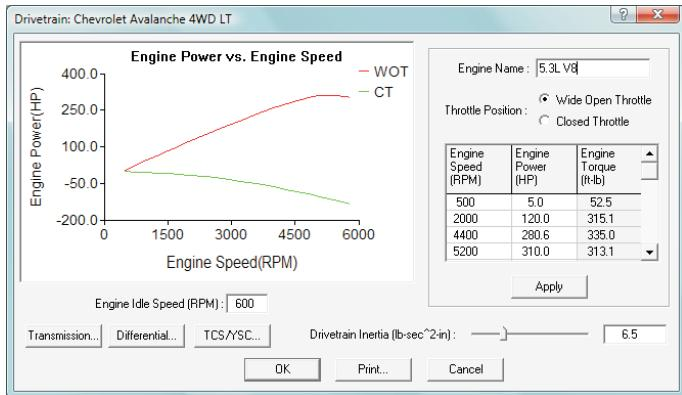

Figure 1 - Drivetrain dialog with engine data table
**Engine Data** – This is the engine torque vs. engine speed table found in the Vehicle Editor by clicking on the vehicle's engine icon. See Drivetrain Dialog, Figure 1.